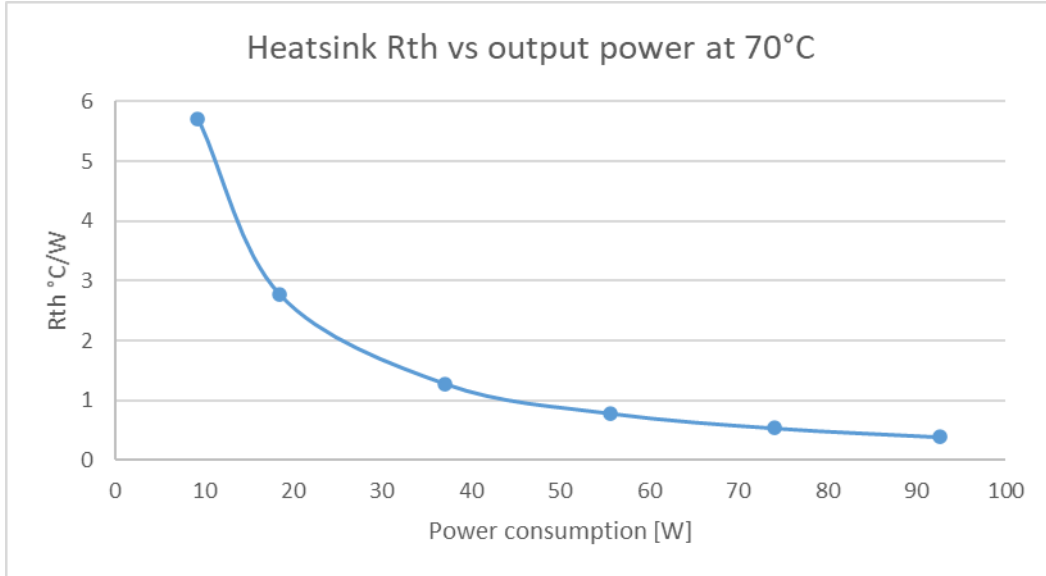

Figure 10: Maximum thermal resistance depending on the power consumption, at +70°C.
- At +70°C, depending on the power consumption, on the Figure 10.